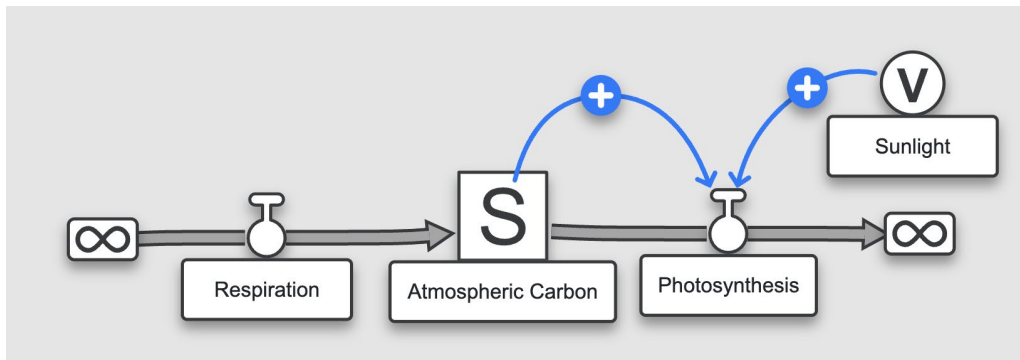
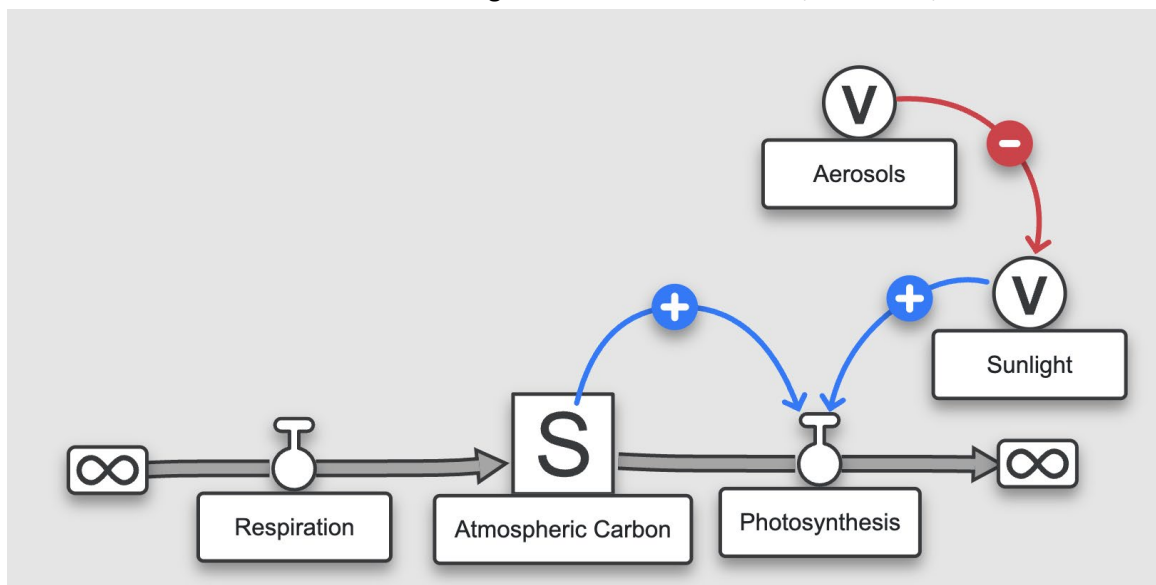

Figure 3. A stock and flow model of atmospheric carbon.
Figure 4. A stock and flow model of atmospheric carbon including the effects of aerosols.
Figure 3 shows an example of a stock and flow model.
- Connectors can also allow a stock to affect a flow. In Figure 3, there is a positive connector from the “Atmospheric Carbon” stock to the “Photosynthesis” flow. This represents the positive effect of atmospheric carbon on photosynthesis; in other words, the rate of photosynthesis depends on the availability (concentration) of atmospheric carbon.
Figure 4 shows the stock and flow model from Figure 3 with a new variable, “Aerosols,” added.
A material that moves through a stock and flow system is assumed to be **consistent**. This means that the form or type of material in the system stays constant. For example, the model in Figure 3 has one consistent material: carbon. Although the carbon takes on different forms — it begins as glucose, is oxidized to carbon dioxide through respiration, and is then fixed back to glucose through photosynthesis — it remains consistent (that is, it is still carbon) as it moves into and out of the stock (“Atmospheric Carbon”) through the flows (“Respiration” and “Photosynthesis”).
If a material in a stock and flow model is *not* consistent, it should be modeled as a variable instead. For example, “Sunlight” is modeled as a variable in Figure 3 because it is a different material from carbon. Sunlight influences the rate at which carbon moves through the system by regulating the rate of photosynthesis, and some energy from sunlight is also transferred through photosynthesis. However, sunlight is not a type of carbon, and it does not flow into or out of the “Atmospheric Carbon” stock. Thus, we represent sunlight as a variable, rather than as a stock, in this system.